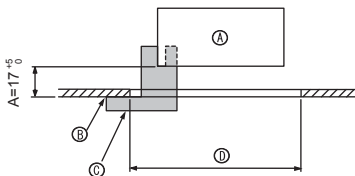

Fig. 5-2
①	Grille	1	950 × 950 (mm)
②	Screw with captive washer	4	M5 × 0.8 × 25
③	Gauge	1	(Divided into four parts)
④	Fastener	3
⑤	Screw	4	4 × 8
⑥	Screw	1	4 × 12
⑦	i-see sensor corner panel	1	for PLP-6BAE
5.2. Preparing to attach the grille (Fig. 5-2)
- With the gauge ③ supplied with this kit, adjust and check the positioning of the unit relative to the ceiling. If the unit is not properly positioned relative to the ceiling, it may allow air leaks or cause condensation to collect.
- ④ Main unit
- ⑤ Ceiling
- ⑥ Gauge ③ (inserted into the unit)
- ⑦ Ceiling opening dimensions